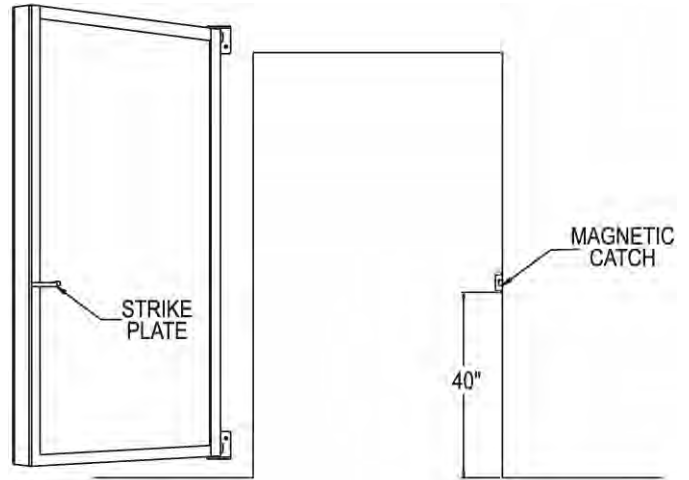

FIGURE 6
Attach 4115 magnetic catch inside the front edge of the opening approximately 40" from the floor using the included six 3/4"(19) screws (Figure 6). Leave the screws loose to permit final adjustment of the catch. Drill a 1/8"(3) diameter hole in the center of dust seal channel and in line with the center of the magnetic catch. Clean the area of the mirror backing that the strike will contact with Isopropyl Rubbing Alcohol. Apply double back tape to the flat end of the strike plate that contacts the back of the mirror (Figure 7).